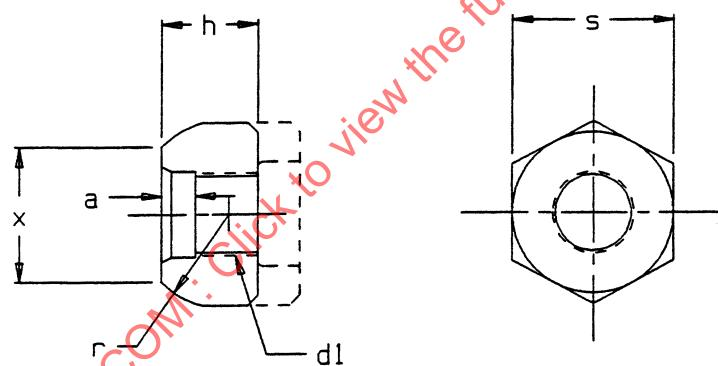

FIGURE 8—SINGLE OR OUTER DUAL BALL SEAT NUT FOR FERROUS WHEELS
6.3.1 DEFINITIONS OF FASTENER DIMENSIONS—Reference Figures 8 to 13:
6.3.2 DIMENSIONS AND TOLERANCES OF BALL SEAT NUTS (BSN) FOR INCH SYSTEM MOUNTINGS—All dimensions in inches. Reference Figure 8.